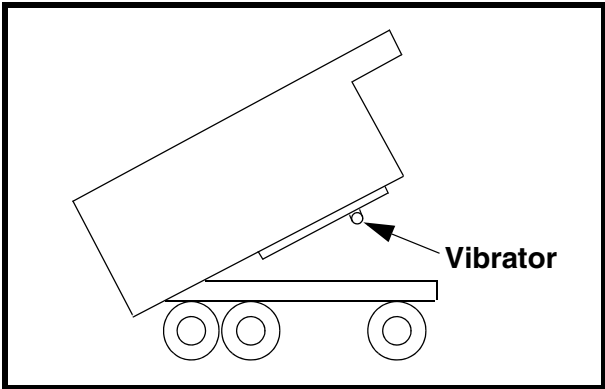

Figure 2. Locating Vibrator on Truck Bed
2. For trucks, mount vibrator in center of front 1/3 of truck bed on 6 by 4-in. (152 by 102-mm) channel, or on rigid member of truck bed (see Figure 2). If two vibrators are required, mount 1/4 of width from each side in front 1/3 of truck bed.